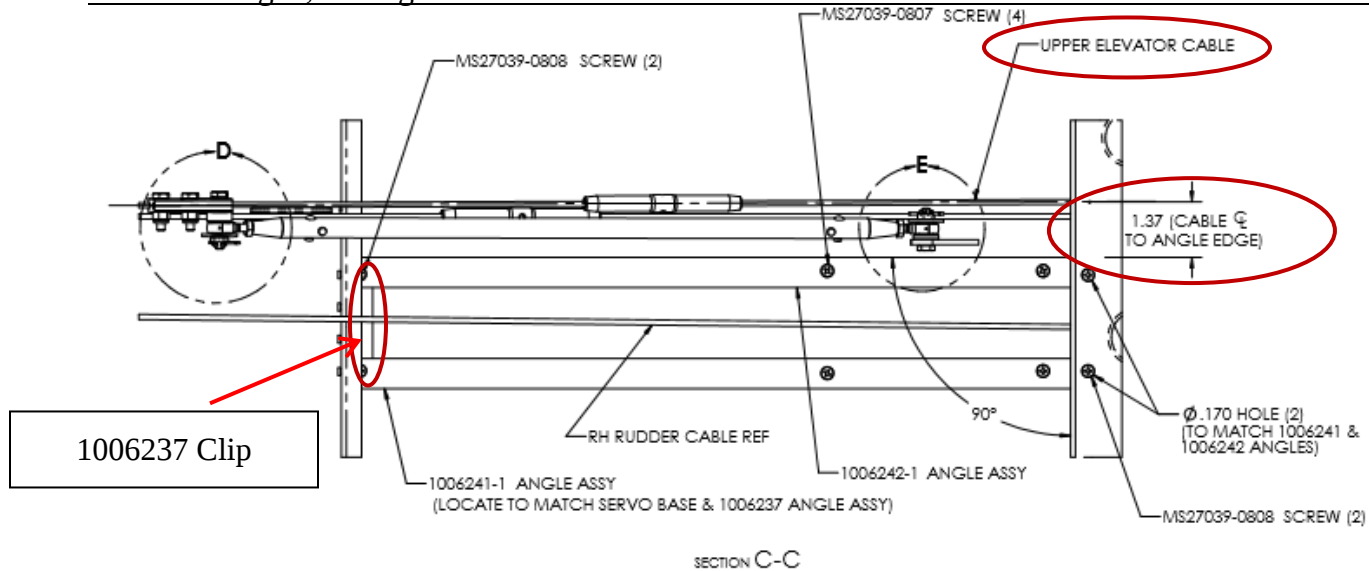

FIGURE 4-8 ANGLE TO BRACKET CLEARANCES
17. Recheck positioning to agree with the dimensions depicted in Figure 4-8.
18. The upper pitch cable should be located “**a minimum horizontal distance**” of 1.37 inches from the edge of the LH (port side) angle assembly, part number 1006242, at FS 124.0. Clearance dimensions are required to be maintained fore and aft of the LH angle assembly. The dimension should not exceed 1.45 inches at FS 124.0. Take measurements at FS 124.0 and FS 142.0. Refer to Figures 4-8 & 4-9.
21. The clip is pre-drilled with four (4) #40 holes.
22. Using the clip as a drill guide, drill four (4) #40 holes through the FS 142.00 bulkhead.
23. Drill the outboard holes first then drill the inner two (2) holes.
29. Clamp the LH and RH angles into position at FS 124 as depicted in Figure 4-8 & 4-9.